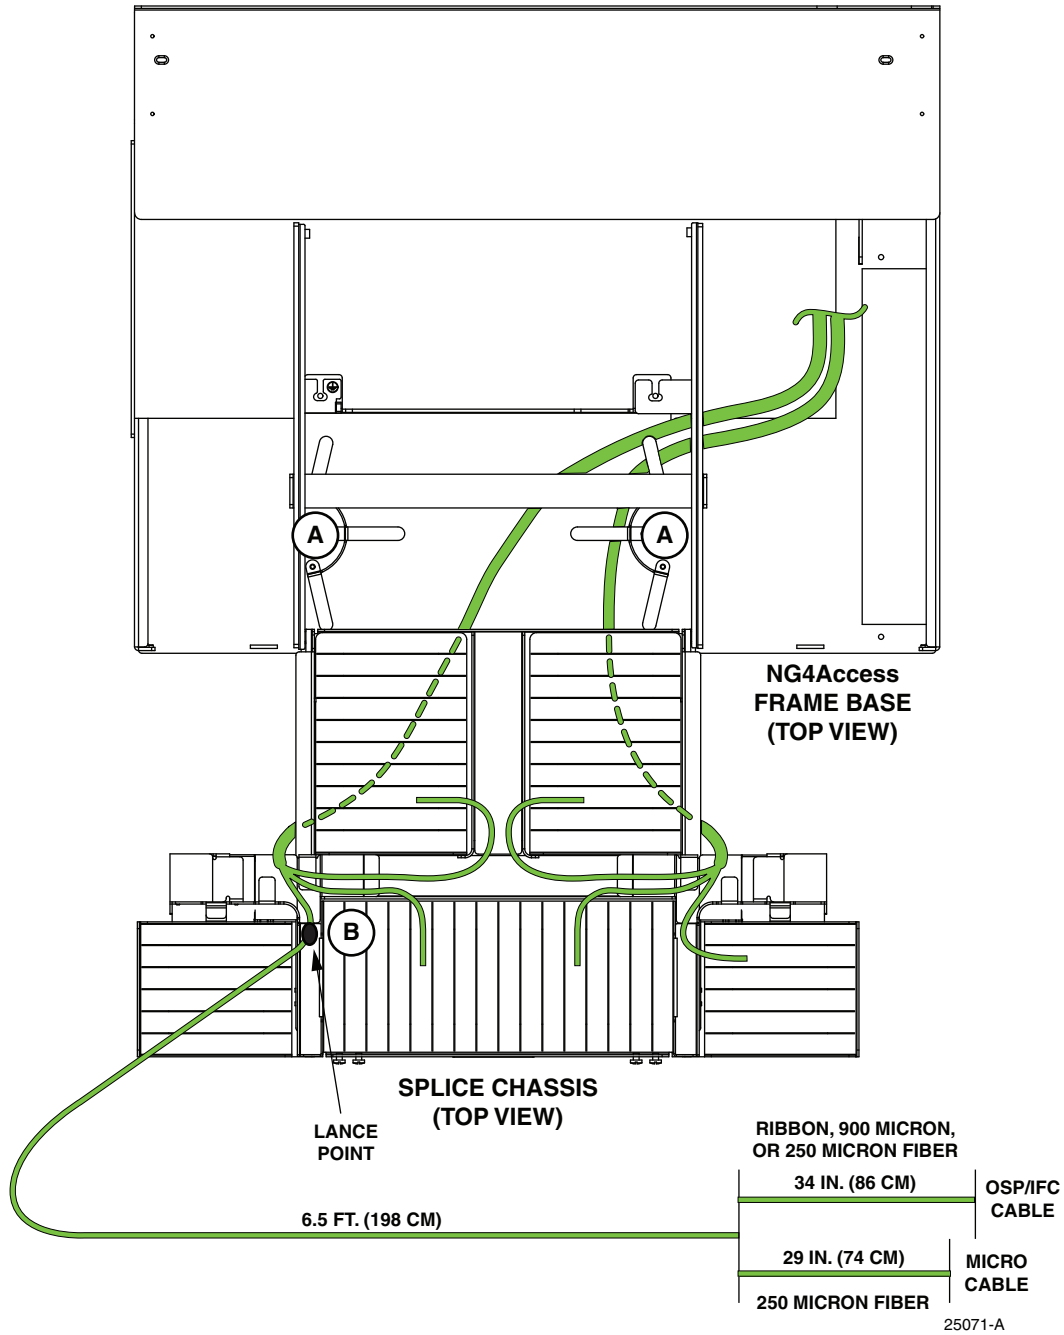

Figure 16. Routing and Breaking Out the Cable
1. Route the cables from the bottom of the frame into the area below the splice chassis and then around the radius limiters (A) and up into the splice chassis (B), as shown in Figure 16. Tie off the cable at the splice tray lance point (black dot in figure), with 9 feet (8.3 m) of cable beyond that, as shown.
2. Extend the cable out into the open area behind the frame (in front of the splice chassis), and break out the cable corresponding to the dimensions provided in Figure 16.